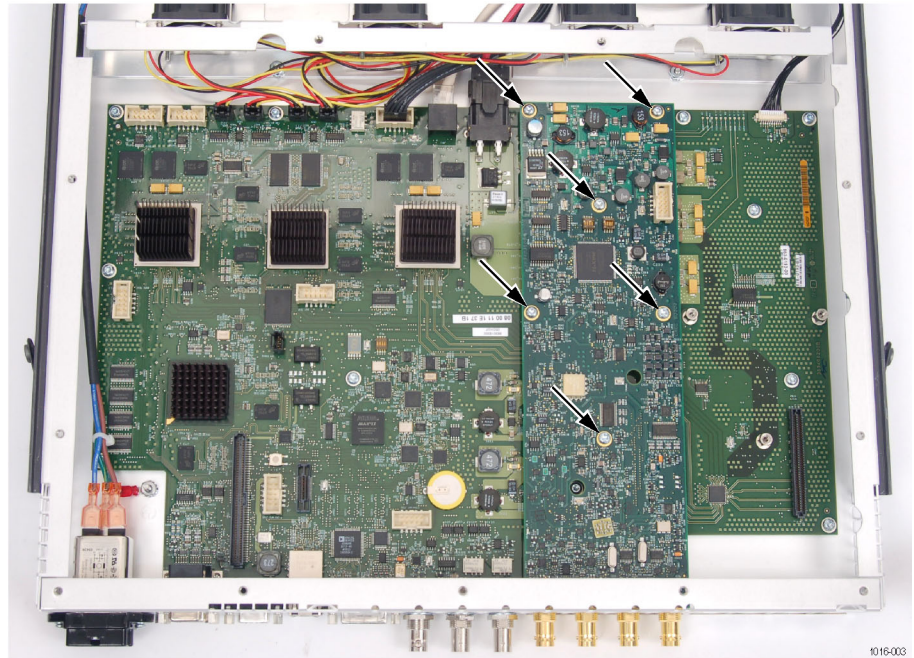
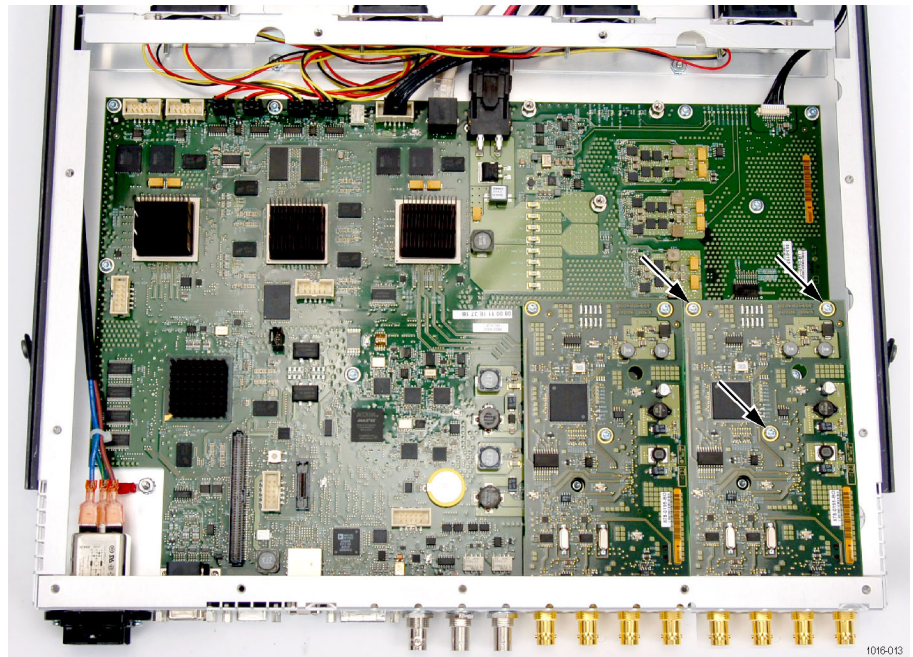

Figure 4: Option EYE or PHY/PHY3 board
Figure 9: SDI board screws
Remove the retaining screws securing the video board to the main board. If removing an SDI video board, there are three screws to remove. (See Figure 9.) If removing an existing EYE or PHY/PHY3 option video board, there are six screws to remove. (See Figure 4.)
- c.** Secure the video board to the six mounting posts with the six T-15 screws from the kit. Tighten firmly, but not excessively. (See Figure 4.)
- c. Secure the SDI board to the three mounting posts with the three T-15 screws from the kit. Tighten firmly, but not excessively. (See Figure 9.)